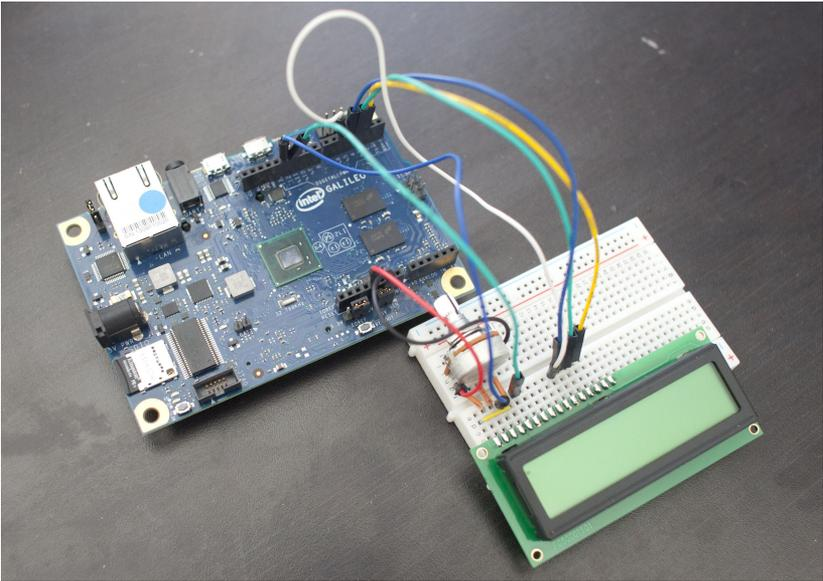

Figure 6-4. Connecting the LCD character display to Galileo
5. Using jumper wires, connect the LCD data lines to Galileo's digital pins as shown in Figure 6-6. Your project might look something like Figure 6-4.